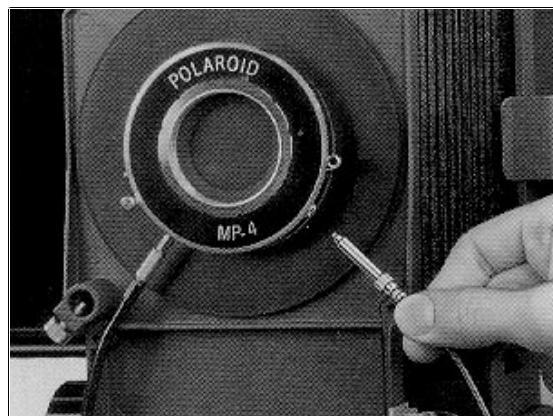

Figure 2-24. Attaching Pre-View Cable to Shutter
- b. Connect the long "pre-view" cable release. Do this with the camera head in the picture taking position (pushed all the way to the right). Screw the release into the "pre-view" socket on the shutter (figure 2-24).